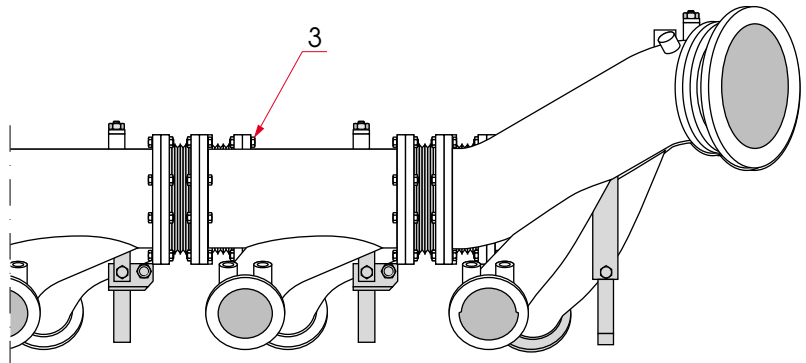

Fig 20-2
- 2** Remove the screws (3) of the flange connection and remove the expansion bellows, see Fig 20-2.